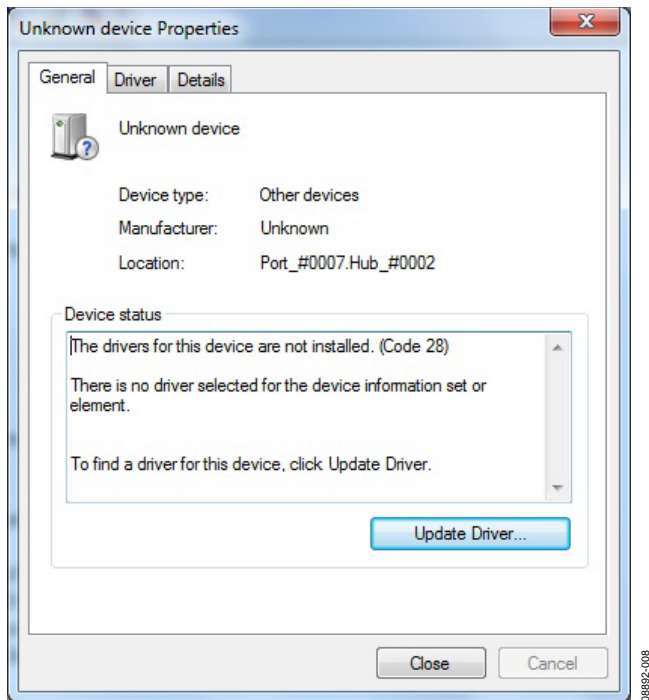

Figure 8. Unknown Device Properties
- Click **Update Driver** in the properties window (see Figure 8).